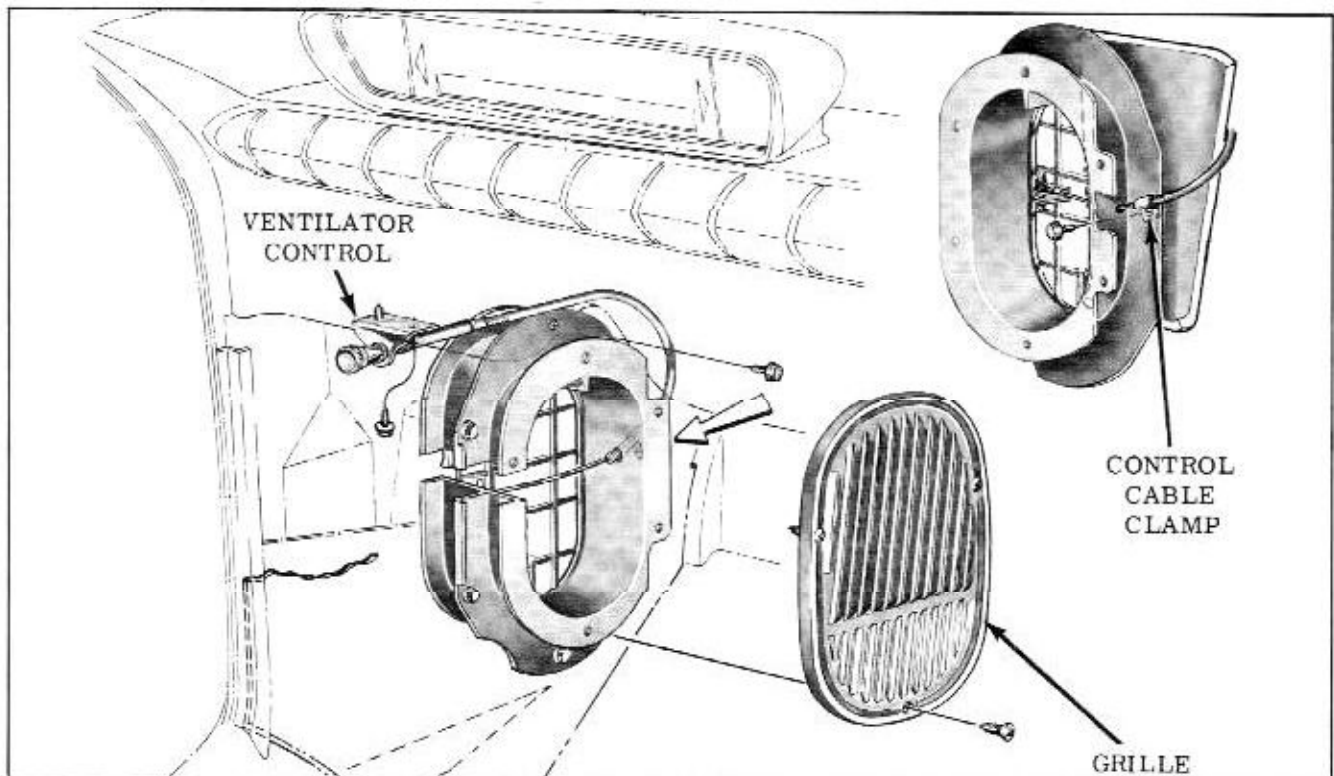

Fig. 15-16 Cowl Ventilator Grille
1. Remove screws shown in Fig. 15-16 securing upper and lower end of air inlet grille.